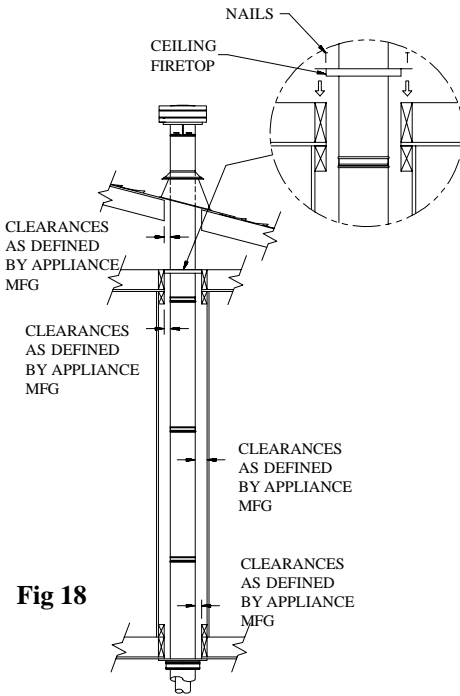

Fig 18
(1) For multi-story vertical installations, a Ceiling Firestop is required at the second floor, and any subsequent floors. (Fig 18). The opening should be 10.5" x 10.5" and framed similar to the opening in Step 3.
(2) If Vent passes through any occupied areas above the first floor, including closets and storage spaces, it must be enclosed. The enclosure may be framed and sheetrocked with standard construction materials, however consult the appliance manufacturer's installation instructions for the minimum allowable clearance between the outside of the vent pipe, and the combustible surfaces of the enclosure. Do not fill any of the required air spaces with insulation.